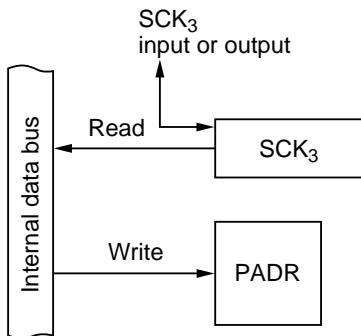

Figure 10-72 SCK3 Pins (Modes 1, 2, 4, 6, and 7)
**(10) SCK3 Pin (PA3; Modes 1, 2, 4, 6, and 7):** Figure 10-72 shows a block diagram illustrating the SCK3 input/output function. Table 10-55 indicates register read/write data. When PA3 is used for SCK3 input or output, the value written in PADR is ignored, but PADR can be read to monitor the level at the SCK3 pin.